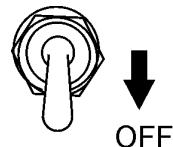

Figure 34. Idle Control Switch (OFF)
3. Place idle control switch (Figure 34) in the OFF position.